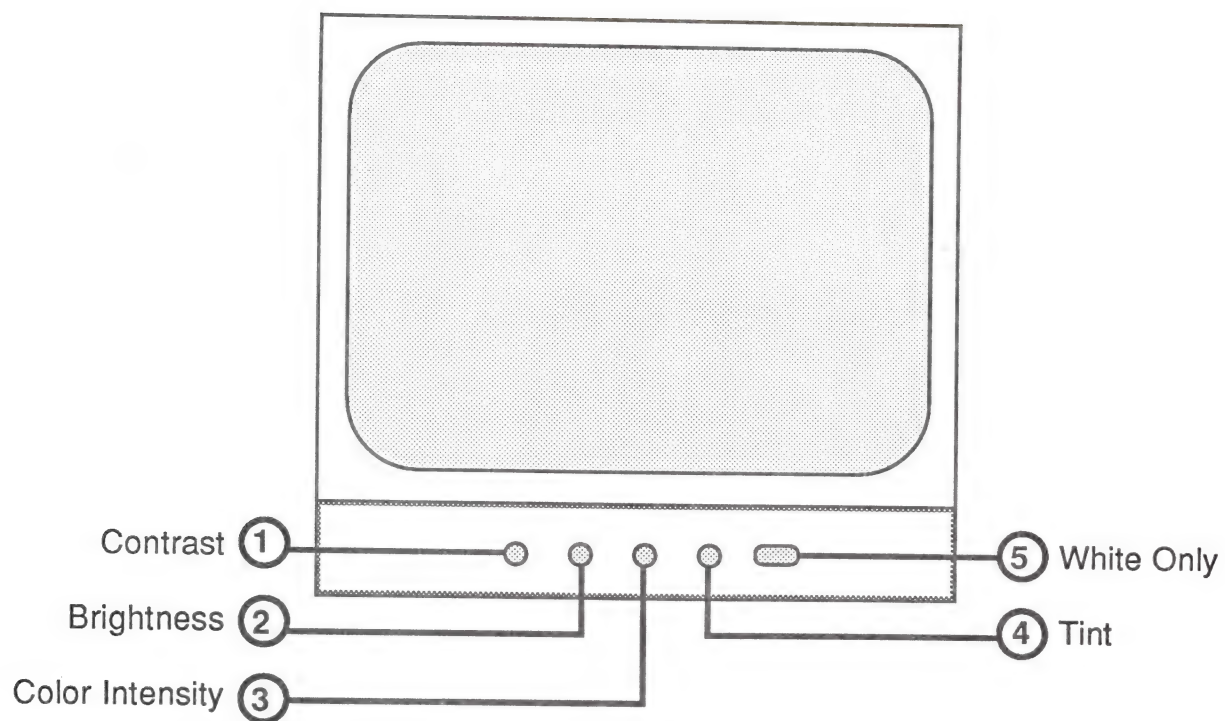

FIGURE 4
7. Turn the **COLOR INTENSITY** control (Figure 4, #3) on the front panel to its maximum counter-clockwise position.
8. Adjust the front panel **BRIGHTNESS** control (Figure 4, #2) to its detent (click) position.
9. Adjust the **CONTRAST** control (Figure 4, #1) to its maximum clockwise position.
10. Depress the **WHITE ONLY** switch (Figure 4, #5).